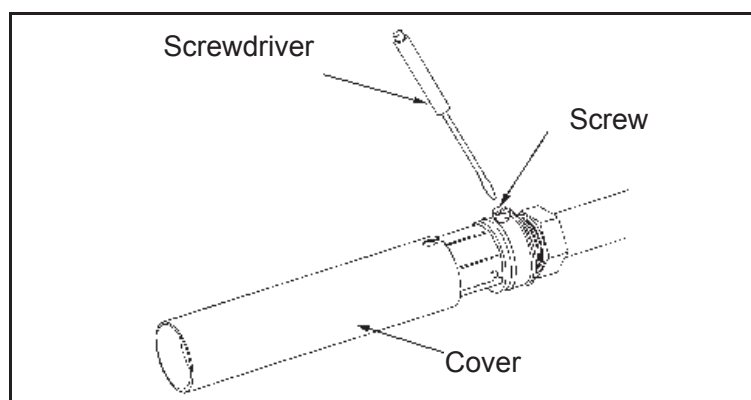

Figure 6-5. Removing the Printhead from its Cover
3. Locate the screw that holds the printhead cover in place (refer to Figure 6-5).